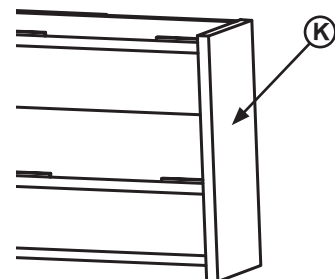

Figure 13
- Weld on roller track stops (K, Figure 13) and proceed to step 8.